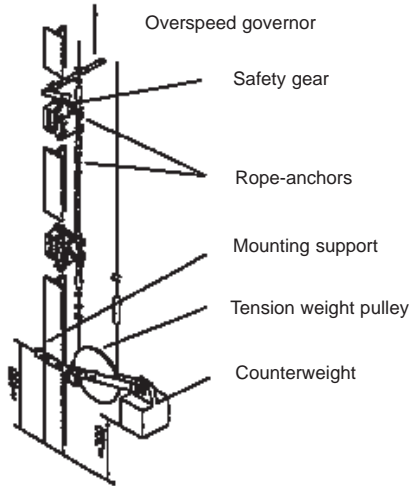

Fig. 1
- in no case, the counterweight must touch the floor (fig. 1);
- Supply the first rope-end with the rope-anchor (fig. 1) and attach it to the safety gear.
- Mount the mouting support at about 450 mm (approx. value, fig. 1) on the bottom of the shaft.